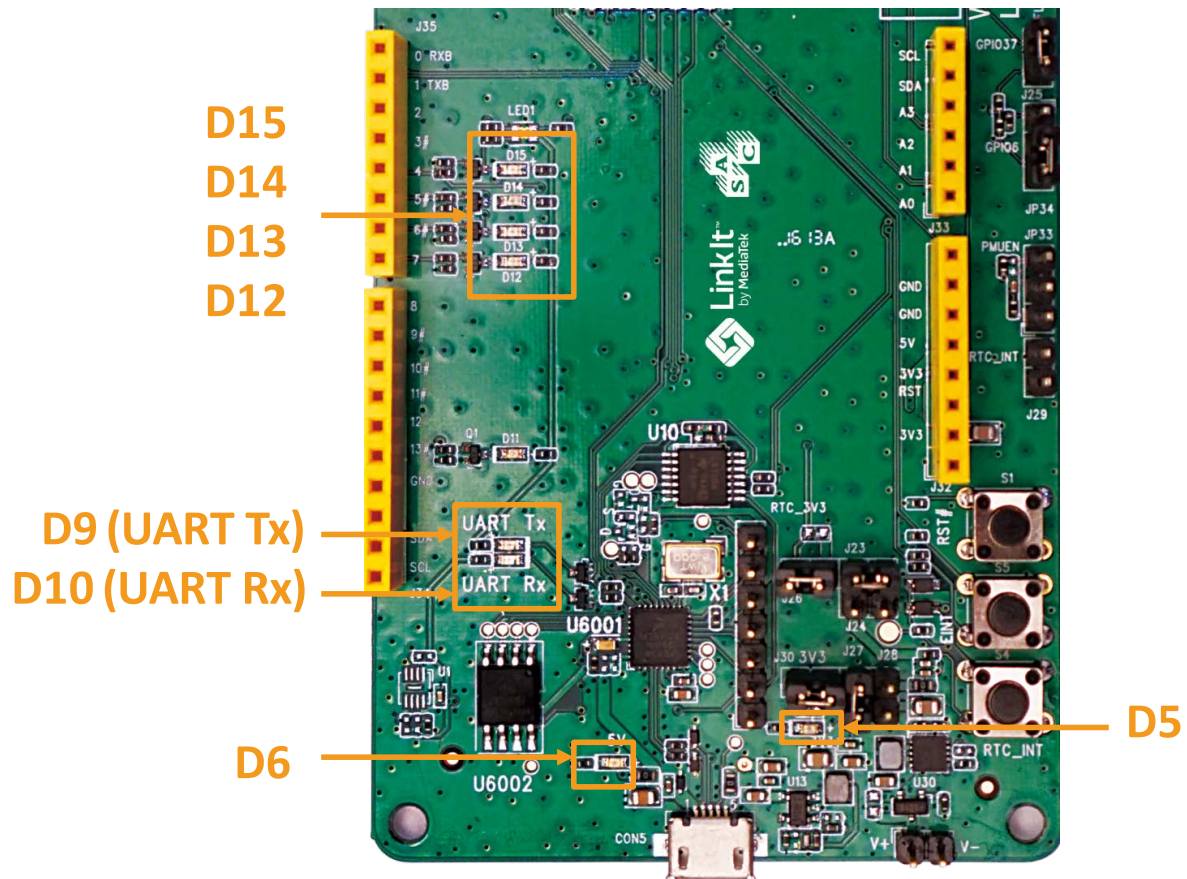

Figure 5. On-board LEDs
The LinkIt 7687 HDK has onboard LEDs associated with different functionalities of the board (Figure 5).
5) **D11, D12, D13, D14**, and **D15** are LEDs assigned for user interaction. All LEDs are high active (Figure 5). GPIO pins to activate the LEDs are shown in Table 3.